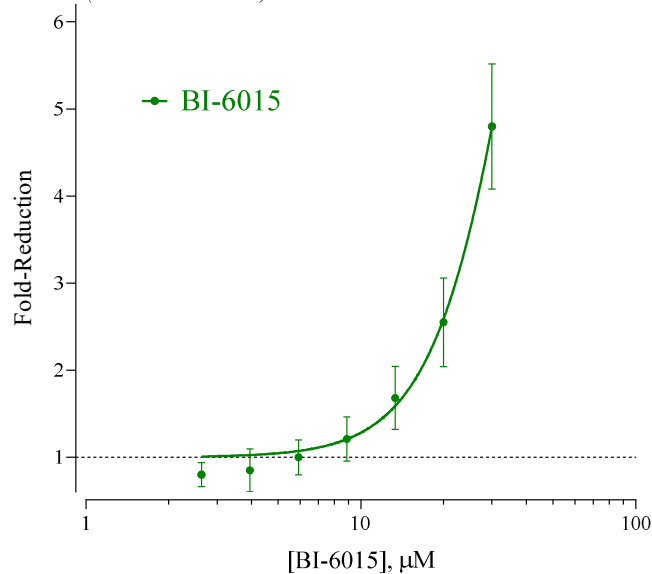

Figure 3. Inverse-Agonist dose-response of Human HNF4 α .
- *Optional:* inverse-agonist/antagonist reference compound (e.g., Figure 3)